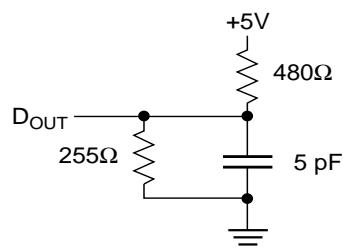

Figure 2. Output Load Equivalent
5. The parameter is tested with  $CL = 5$  pF as shown in Figure 2. Transition is measured  $\pm 200$  mV from steady state voltage.